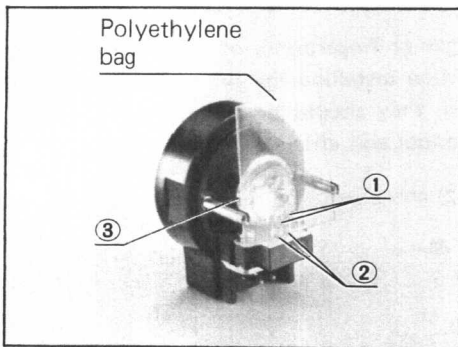

Fig. 6
1) Pull the contact pins ① of a halogen bulb from its polyethylene bag. (Fig. 6)